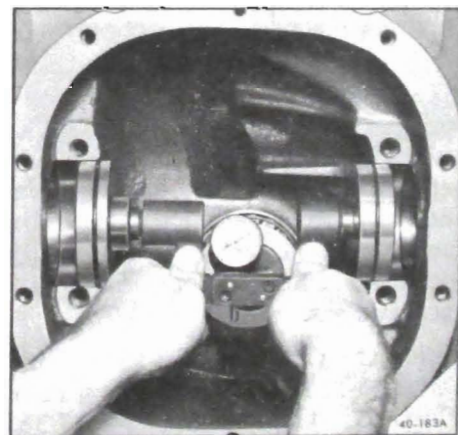

Figure 40-153 Checking Pinion Depth
8. Be certain that differential bearing support bores are free of dirt and burrs. Place indicator gage in carrier so that small diameter of Disc J-5647-41 and large diameter of Disc J-5647-42 rest in differential bearing pedestal support bores. Hold indicator gage as shown in Figure 40-153. Spring-loaded center of gage must be located in centering hole of gage plate, and ball-tipped contact button of dial indicator must be positioned to bear against gage plate top surface.